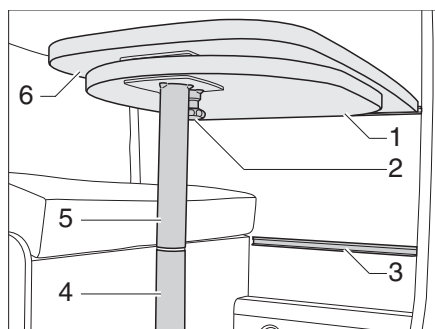

Fig. 35 Suspension table with dismantable support leg
- Pull the knob (Fig. 35,2) of the locking mechanism downward and swivel out the table-top extension (Fig. 35,1).
- Swivel the table-top extension (Fig. 35,1) under the table-top (Fig. 35,6) until the locking mechanism latches audibly.
- Swivel out the table-top extension (Fig. 35,1).
- Lift the front of the table-top (Fig. 35,6) by approx. 45°.
- Pull out the lower part of the support leg (Fig. 35,4) down and lay aside.
- Hook the table-top with the retainers at an angle of 45° into the lower attachment rail (Fig. 35,3) and set it down onto the floor with the upper part of the support leg (Fig. 35,5).